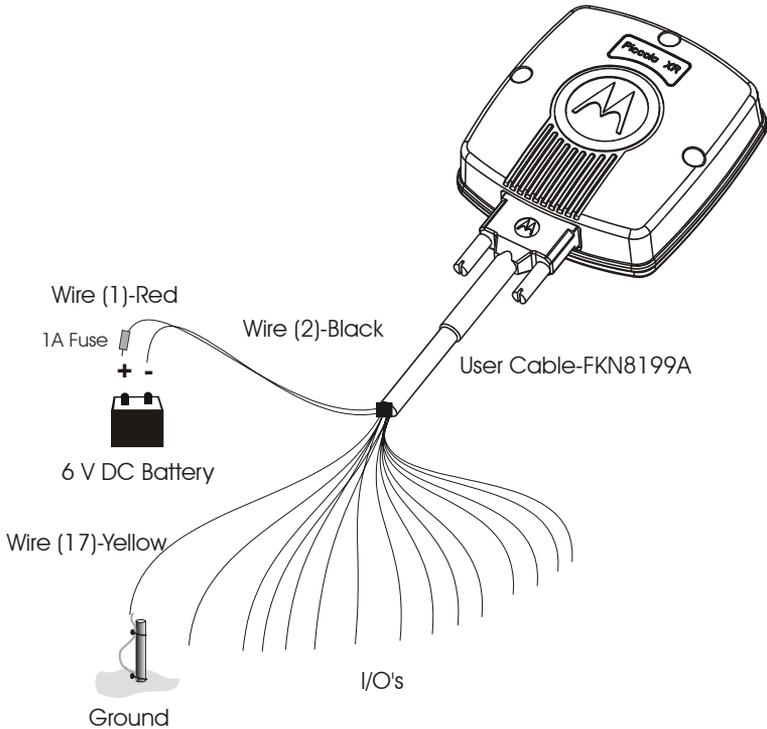

Figure 16
Connect the yellow wire (17) of the FKN8199A user cable to the PGND, as shown in Figure 16.
Use the FKN8199A cable to connect the Piccolo–XR to an external battery. Connect Wire #1 (red) to the positive (+) pole of the battery through a 1 A fuse (not supplied) and wire #2 (black) to the battery negative (–) pole. See Figure 16.